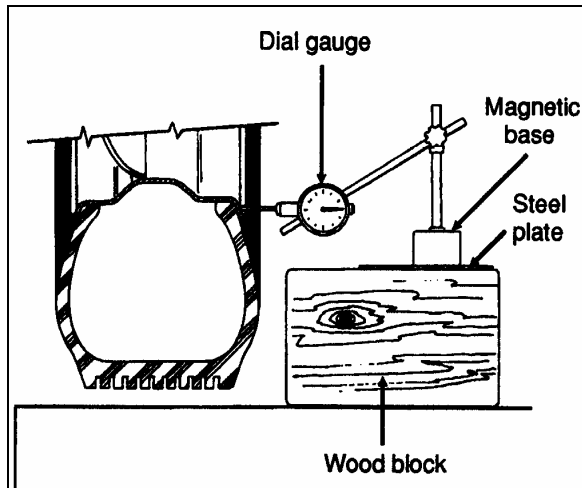

FIGURE 3: DIAL GAUGE INSTALLATION 13008
2. Check wheel lateral run-out. Install a dial gauge as shown in figure 3, then rotate the wheel by hand one full turn. As the wheel turns, note any variation on the dial gauge;